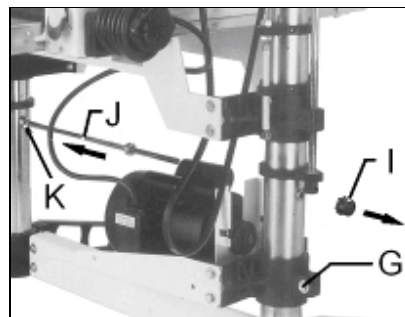

Fig 25
Remove the bevel gear (I, Fig 25) and loosen the collar (K).